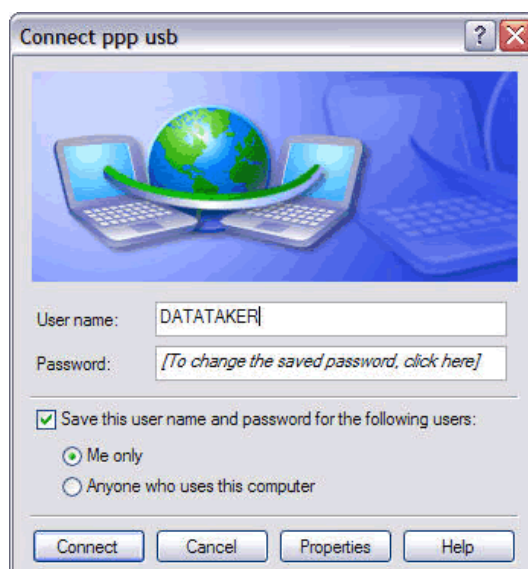

Figure 101: PPP Connect dialog (Windows XP)
10. The wizard will now display the **Connect** dialog. (*Figure 101*; you will see this dialog each time you establish a PPP connection to the logger.) Press **Cancel** for now. A few more options should be set before connecting, as detailed below.
7. Press **OK** to close the various "properties" dialogs, and return to the **Connect** dialog (*Figure 101*). You can now try establishing a PPP connection, see *Using PPP (P253)*.
11. The wizard will now display the **Connect** dialog. (*Figure 101*; you will see this dialog each time you establish a PPP connection to the logger.) Press **Cancel** for now. A few more options should be set before connecting, as detailed below.
The **Connect** dialog (*Figure 101*) will now be displayed. Click **Properties**.
2. The **Connect** dialog (Figure 101) will be displayed. Press **Connect**.